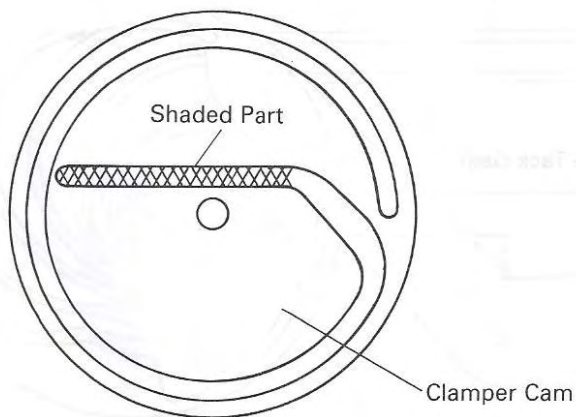

Figure 29
1. Positioning of Tray Slider and Slider (A)
- ① Remove clamber lever spring and clamber cam from the clamber lever.
- ② Push tray slider in forward direction.
- ③ Mount slider (A) so that its center marker Δ is positioned between two inscribed lines on side of rack gear of tray slider and fix slider (A) with two screws.
- ④ After mounting slider (A), mount clamber cam, clamber lever and clamber lever spring in this order.
- When mounting clamber cam, round boss of slider (A) should be in slot (shaded part) of clamber rear side. (Figure 29)